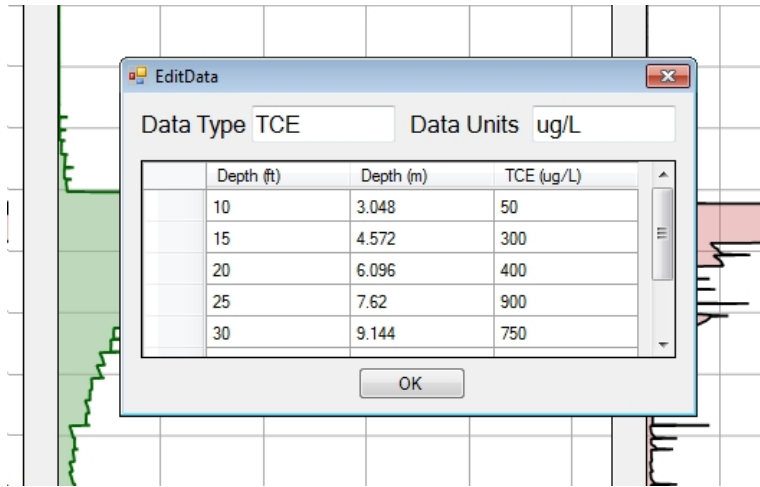

Figure 18: Entering Custom Data Sets into the software.
4. Select the desired data set or select *Add* for the *EditData* text box (Figure 18).
5. Enter the data type and the units associated with the custom data. Then enter the depth either in FT or M (whichever one is entered the other will back calculate) and the amount or concentration associated with that data point (Figure 18). Select *OK*.